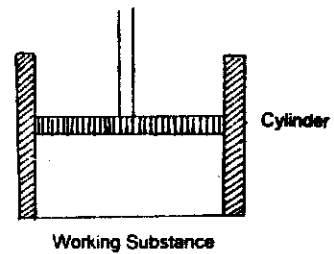
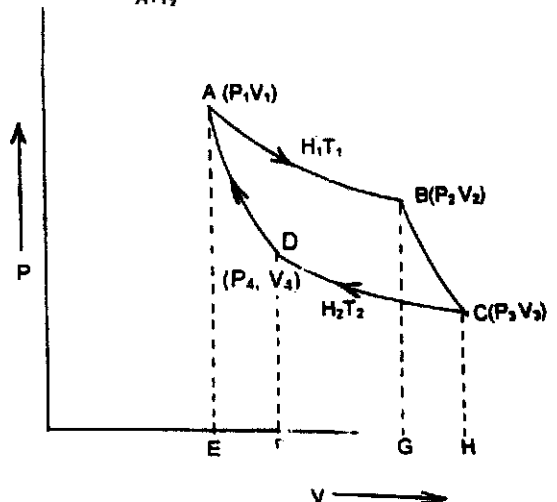

Fig. 12.5:
Fig. 12.7: Indicator Diagram
- (iii) **Working substance:** Perfect gas filled in a cylinder fitted with a frictionless piston (Fig. 12.5) The sides of the cylinder are perfecting insulating.
The working substance is subjected to a cycle of four operations: (a) isothermal expansion (b) adiabatic expansion (c) isothermal compression and (d) adiabatic compression. Such a cycle is known as Carnot's cycle and is represented on the P-V diagram (Fig. 12.7). To describe four operations of Carnot's cycle, let us fill one gm. mol. of the working substance in the cylinder (Fig. 12.5). Original conditions of the substance is represented by point A on the indicator diagram. At point A, substance
(a) **Isothermal expansion:** Place the cylinder on the source. Decrease load slowly on the piston to P_2 . The volume of the working substance increase to V_2 . Thus working substance expands and does external work in raising the piston. In this way the temperature of the working substance tends to fall. As it is kept in thermal contact with the source, it will absorb a quantity of heat, H_1 from the source at temperature T_1 . This way we get point B. At B the values of pressure and volume are P_2 and V_2 respectively. On the indicator diagram (Fig. 12.7), you see that going from A to B temperature of the system remains constant and working substance expands. We call it **isothermal expansion process**. H_1 is the amount of heat absorbed in the isothermal expansion process. Then, in accordance with the first law of thermodynamics H_1 will be equal to the external work done by the gas during isothermal expansion from A to B at temperature T_1 . Suppose W_1 is the external work done by the gas during isothermal expansion AB, then it will be equal to the area ABGEA. Hence
(c) **Isothermal compression:** Remove the cylinder from the non-conducting stand and place it on the sink at temperature T_2 . In order to compress the gas slowly, increase the load (pressure) on the piston until its pressure and volume become P_4 and V_4 respectively. It is represented by the point D on the indicator diagram (Fig. 12.7). The heat developed (H_2) due to compression will pass to the sink. Thus, there is no change in the temperature of the system. Therefore, it is called as an **isothermal compression process**. It is shown by the curve CD (Fig. 12.7). The quantity of heat rejected (H_2) to the sink during this process is equal to the work done (say W_3) on the working substance. Hence
(d) **Adiabatic compression:** Once again place the system on the non-conducting stand. Increase the load on the piston slowly. The substance will go under an **adiabatic compression**. This compression continues until the temperature rises to T_1 and the substance comes back to its original pressure P_1 and volume V_1 . This is an adiabatic compression process and represented by the curve DA on the indicator diagram (Fig. 12.7). Suppose W_4 is the work done during this adiabatic compression from D to A then
$$W = \text{Area ABCHEA} - \text{Area CHEADC} \text{ (see Fig.12.7)}$$